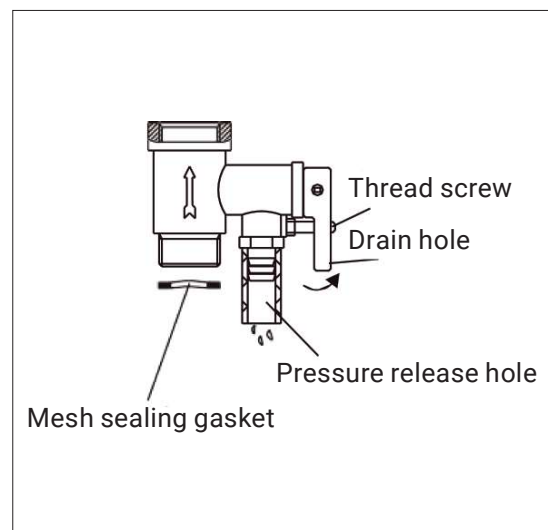

Fig.7
- Unscrew the thread screw on the multifunction safety valve, and lift the drain handle upwards (see Fig.7) to drain the water from the inner tank.